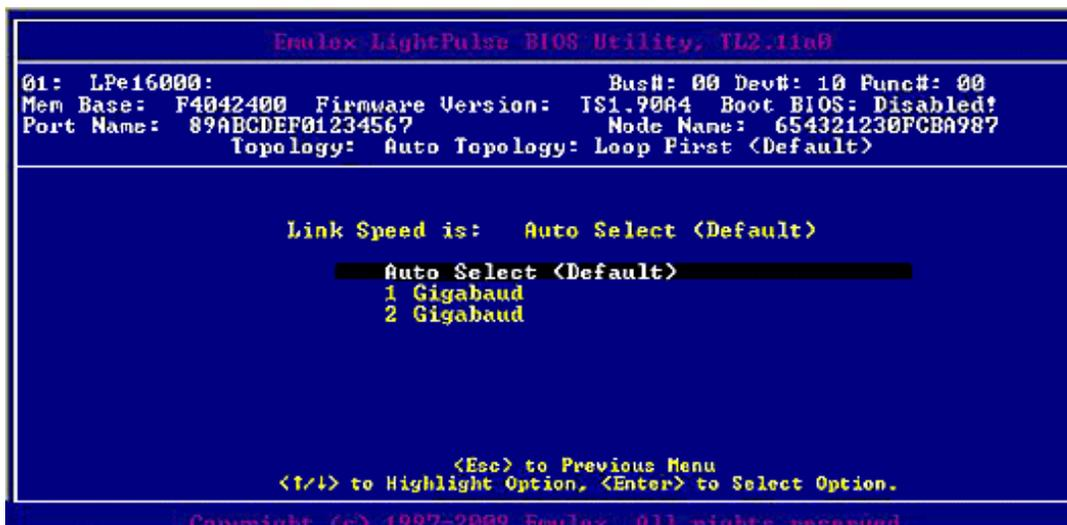

Figure 4-19 Link Speed Selection Menu
2. Select **Link Speed Selection** and press **<Enter>**. The Link Speed Selection menu (Figure 4-19 on page 42) is displayed.